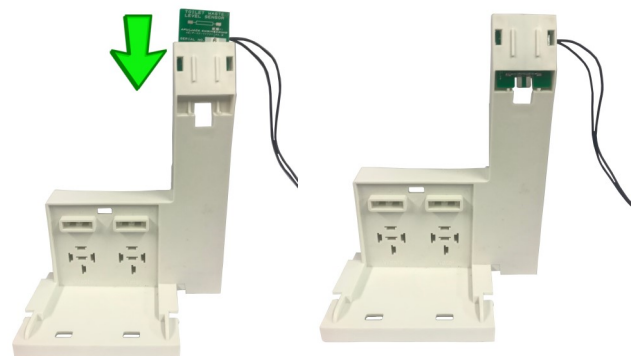

Figure 4
6. Run the cables back where they originally came from and slot the new PCB back into the plastic assembly slot (See Fig.4) making sure the wiring is pointing forwards and the wires are coming out the back.